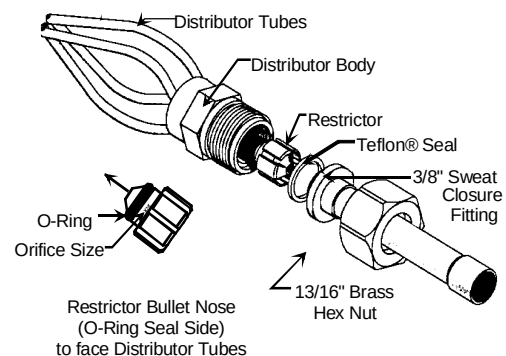

Figure 2
1. If required, install a new teflon seal as shown in Figure 2.
2. Insert new restrictor fully into the distributor body with smaller end towards the indoor coil as shown in Figure 2. Ensure the restrictor stays inserted in body before connecting mating half.